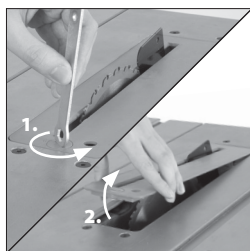

Fig. 14
- Remove the Table Access Plate by turning the fixing screw $\frac{1}{4}$ of a turn. Lift the Access Plate from the machine (**Fig. 14**). Carefully store this component for later use.